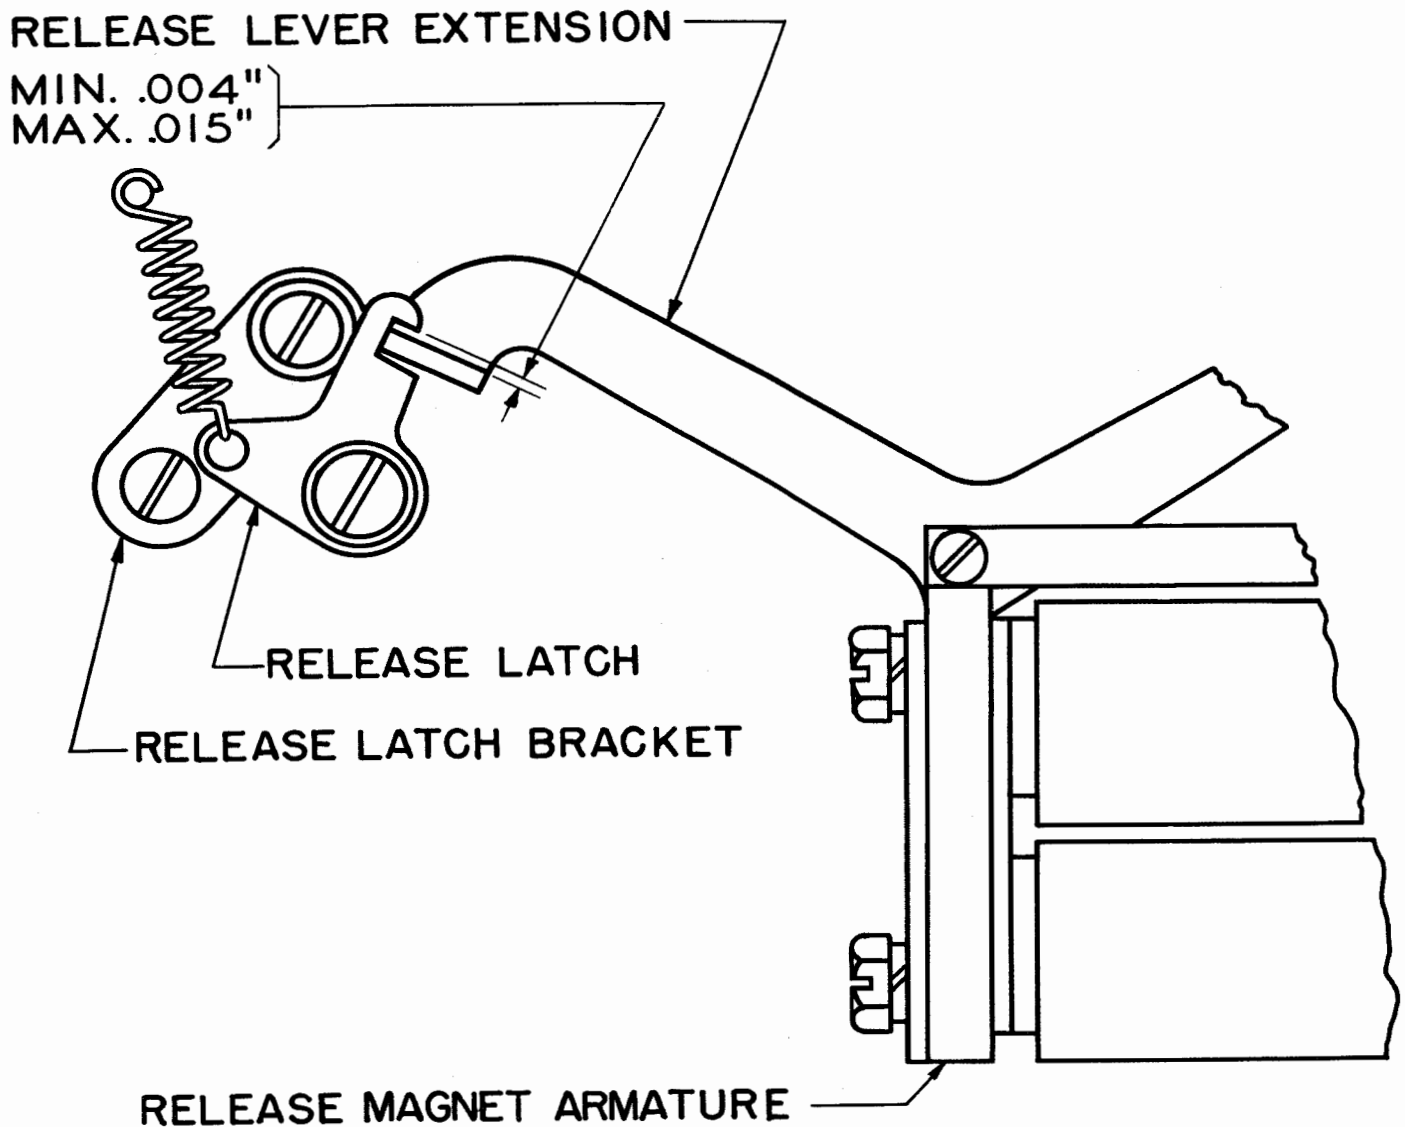

Figure 51
6.08 Release-lever Extension should overtravel the notch in the release latch by minimum 0.004 inch, maximum 0.015 inch when the release magnet armature is in its operated position (against cores). See Figure 51.